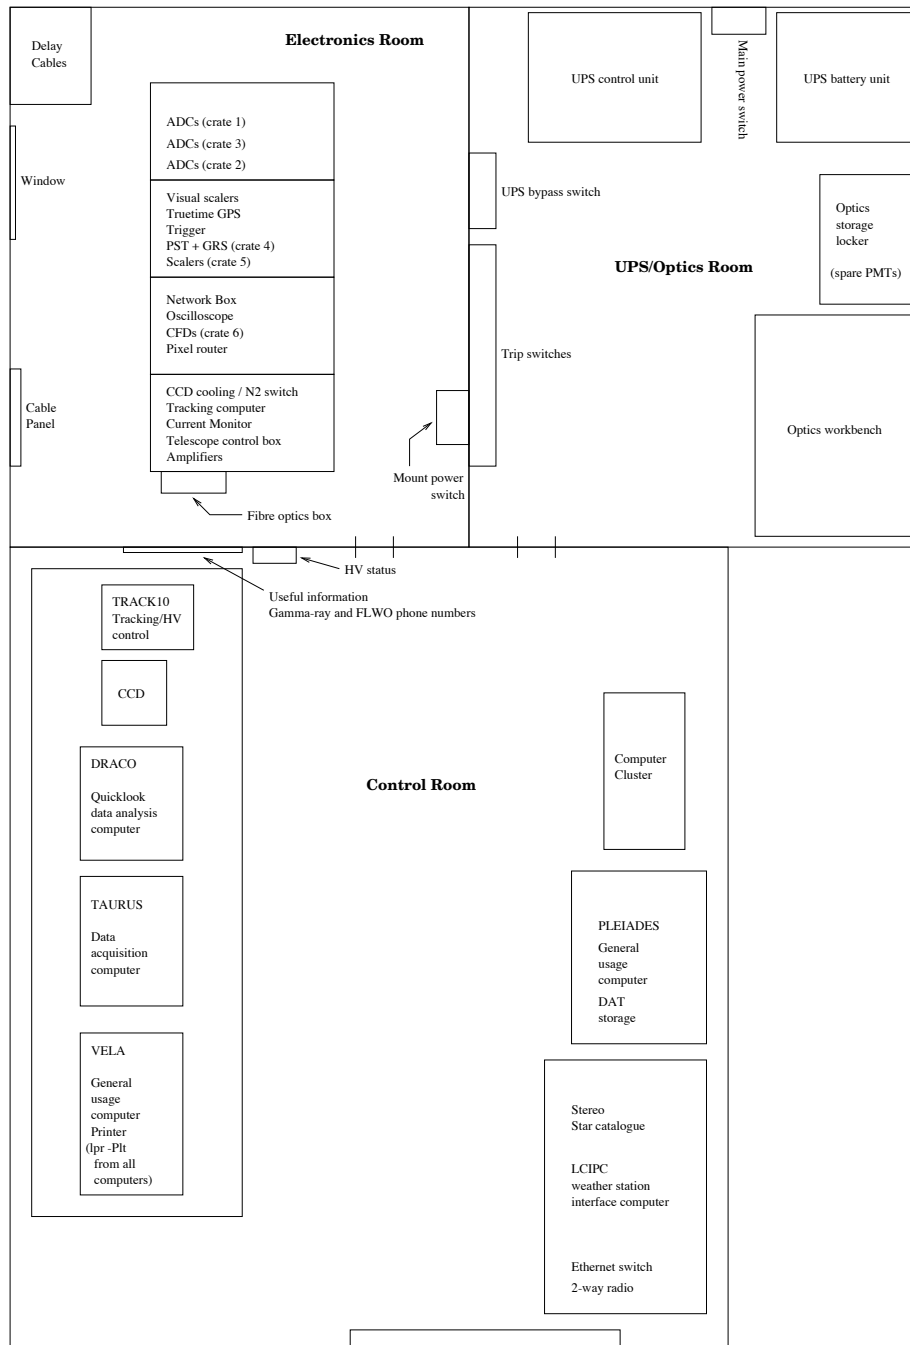

Figure 2.2: The layout of the 10m control room.
In this chapter there are references to several computers (e.g., *taurus*, *track10*, etc.). All of these computers should have labels on their monitors to identify them. Figure 2.2, depicts the layout of the control, electronics and UPS rooms, shows the locations of most of the electronics and computers referenced in this chapter.
See Figure 2.2.
- Power up the laser, which can be found in the UPS/optics room (See Figure 2.2).